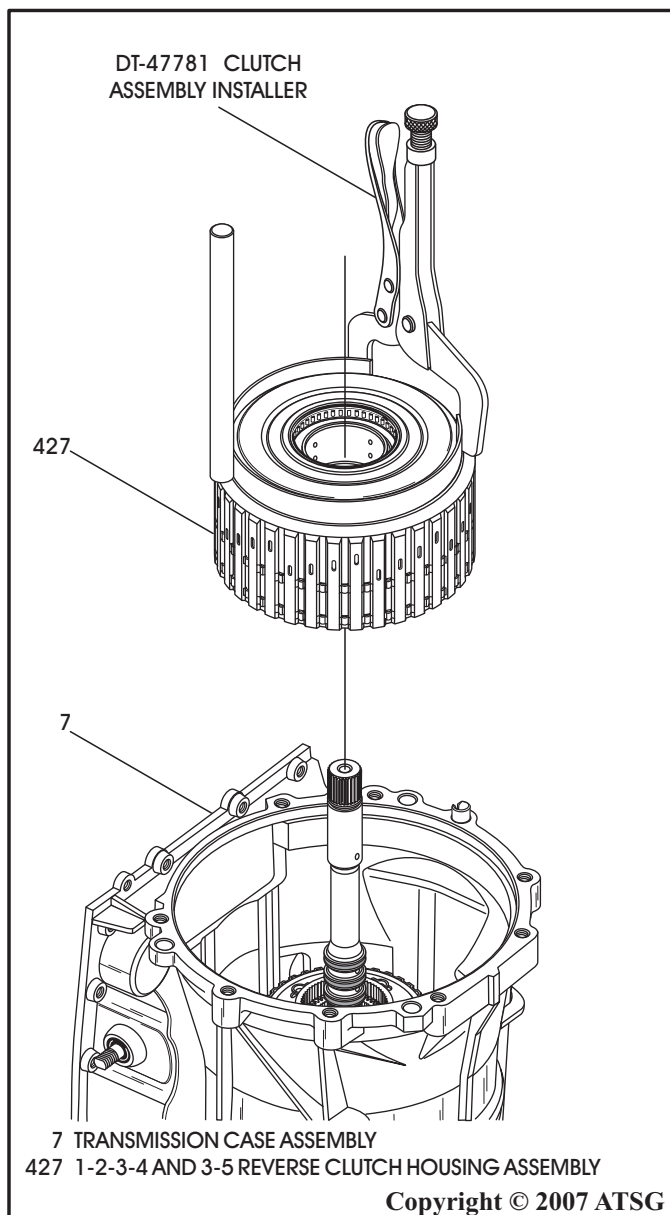

Figure 165
24. Grab the entire assembly by the "handles" of the DT-47781 and install the 1-2-3-4 and 3-5 reverse clutch housing, as shown in Figure 165.
25. Wiggle the DT-47781 back and forth in order to align the 1-2-3-4 clutch plates, and the 3-5 reverse clutch plates with the external splines of the two shells. (See Figure 165).